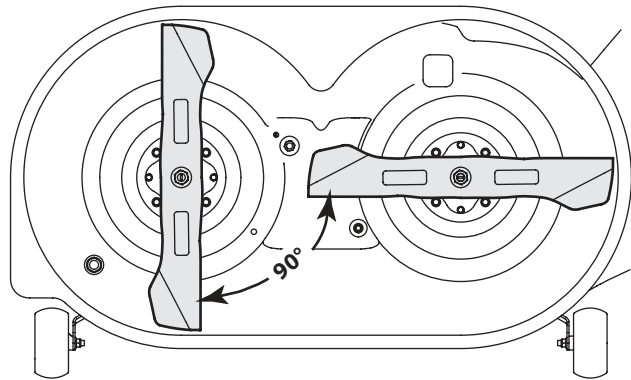

Figure 8.13
7. To install the timing belt turn the blades 90° apart. See Figure 8.13.